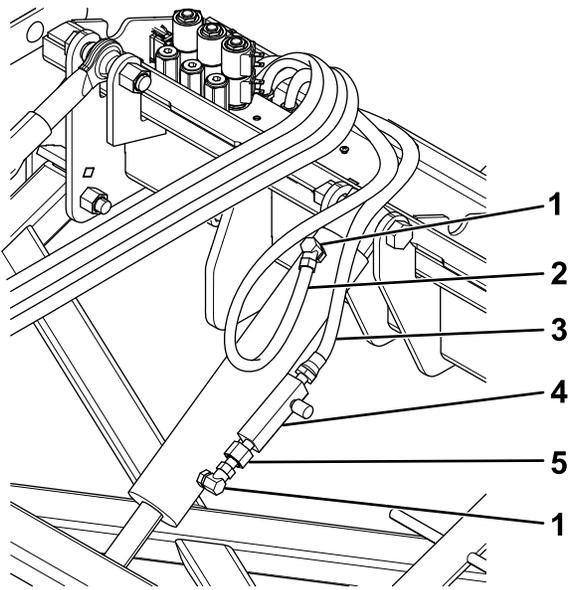

Figure 10
2. Route the hoses toward the lift cylinder (Figure 10).
- Attach the 90° fittings to the lift cylinder as shown in Figure 10.
- Attach the flow control valve to the 90° fitting on the bottom of the lift cylinder using the coupler (Figure 10).
Note: Ensure that the adjustment knob on the valve is positioned towards the coupler assembly as shown in Figure 10.
- Secure the short hose to the top fitting on the lift cylinder (Figure 10).
- Secure the medium hose to the flow control valve (Figure 10).